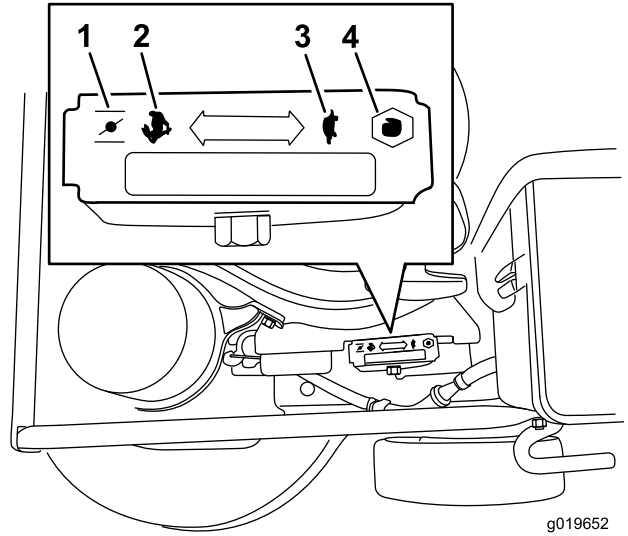

Figure 7
3. Move the throttle control to the **Choke** position (Figure 7).